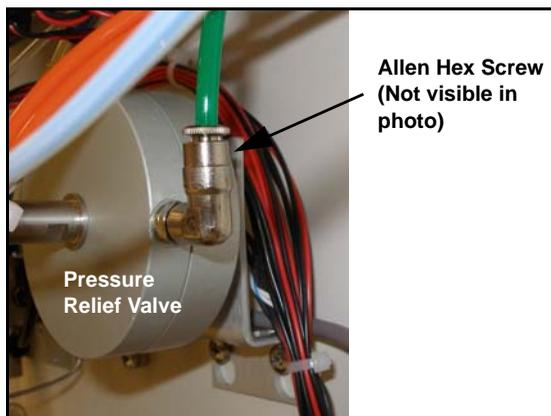

Figure 5-17. Removing the Allen Hex Screw
7. Use the 1/4-inch open-end wrench to disconnect the green PEEK waste line (5) from the front of the valve.
8. Use a 9/64-inch Allen wrench to loosen the hex screw (black) on the right side of the clamp ring, behind the valve base (see Figure 5-17).